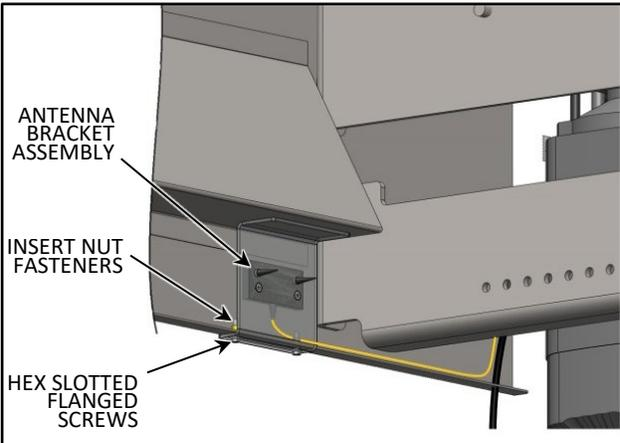

Figure 24
3. Locate and identify the insert nuts for mounting the antenna bracket assembly. They are on the lower inside of the front spreader on the drive side. (See Figure 24)
4. Install the antenna bracket assembly to the front spreader with (2) 10-24NC x 3/4" long hex flanged machine screws. Fastener hardware is located in the small parts carton. (See Figure 24)
5. Route the antenna wire along the front spreader to the motor encoder and connect it as documented in that section. (See Figure 24)